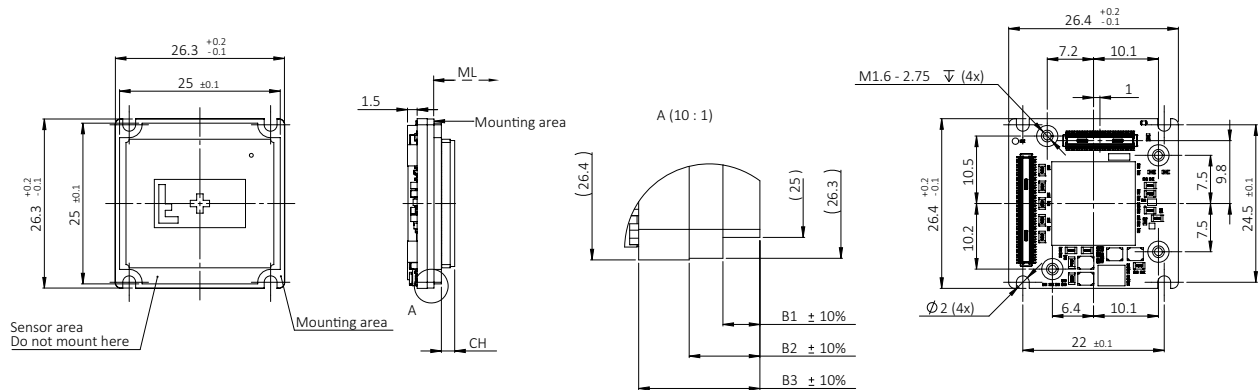

Figure 78: Bare Board (Alvium Flex) dimensions
Dimensions that are common between different models are shown in Figure 78, model specific dimensions are listed in Table 96. **Mechanical length (ML)** defines the mechanical distance from the mounting area to the lens mount front flange, without optical filter. **Components height (CH)** relates to the electronic components with maximum height, sometimes the sensor.